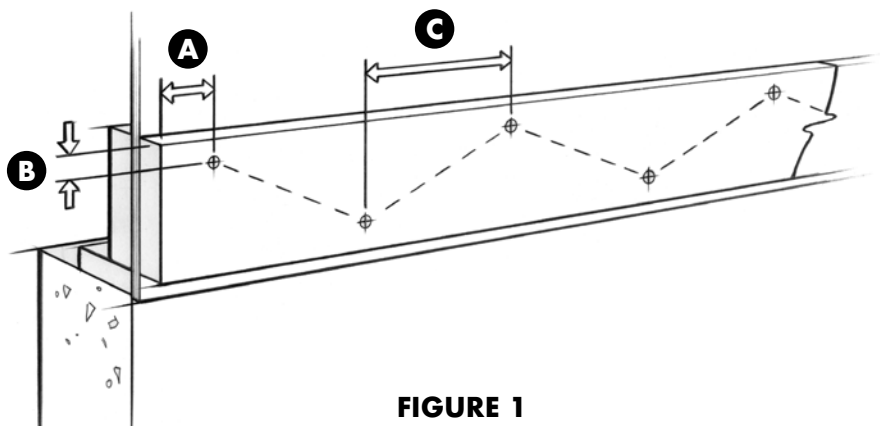

FIGURE 1
- Follow the minimum spacing and fastening patterns from Figure 1 and Table 1.